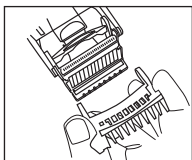

Fig. 8
3. Replace with a new stubble comb guide (Fig.8).